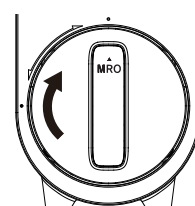

Figure 3
5. Apply slight forward pressure to the filter and rotate it a 1/4 turn clockwise, until the arrow is aligned with the solid circle on the housing. You may hear a click when the filter is fitted properly (Figure 3);